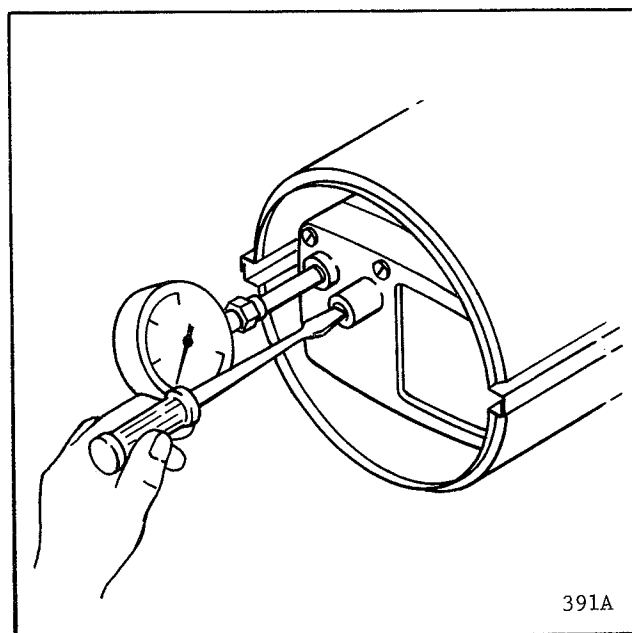

Figure 12. Checking and Adjustment of Air Pump Pressure
1. Remove the plug from the air filter housing, and install the pressure gage (listed in paragraph B of this Section) into the hole. See figure 12.